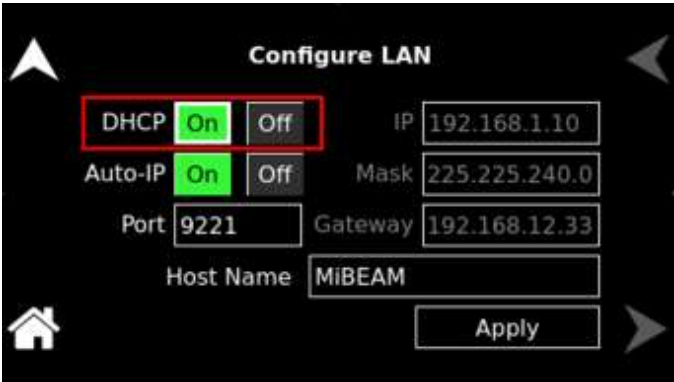

Figure 10-185. LAN Screen – DHCP
- **DHCP:** Selects whether DHCP is enabled or disabled. Refer to Figure 10-185.